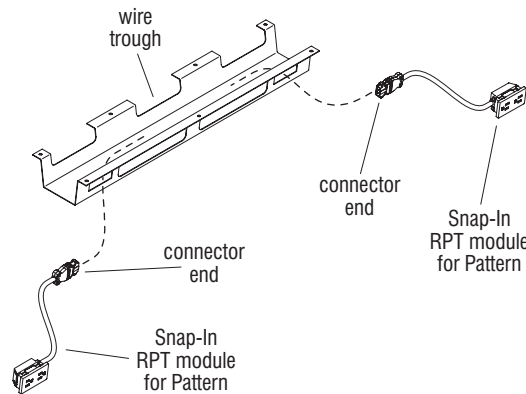

Figure 6
1. Route the connector end of each Snap-In module in through the rectangular-shaped module mounting holes on the wire trough as illustrated, routing the connector ends toward the middle of the trough, then snap the module receptacles into position (Figure 6 & Details Q & R).